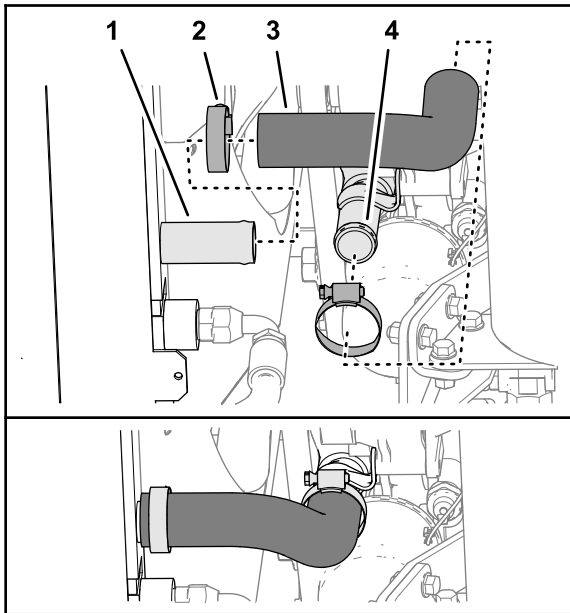

Figure 38
- Loosely assemble the lower radiator hose to the outlet of the radiator with a hose clamp as shown in Figure 38.
- Assemble the other end of the lower radiator hose to the inlet of the engine with a hose clamp (Figure 38).